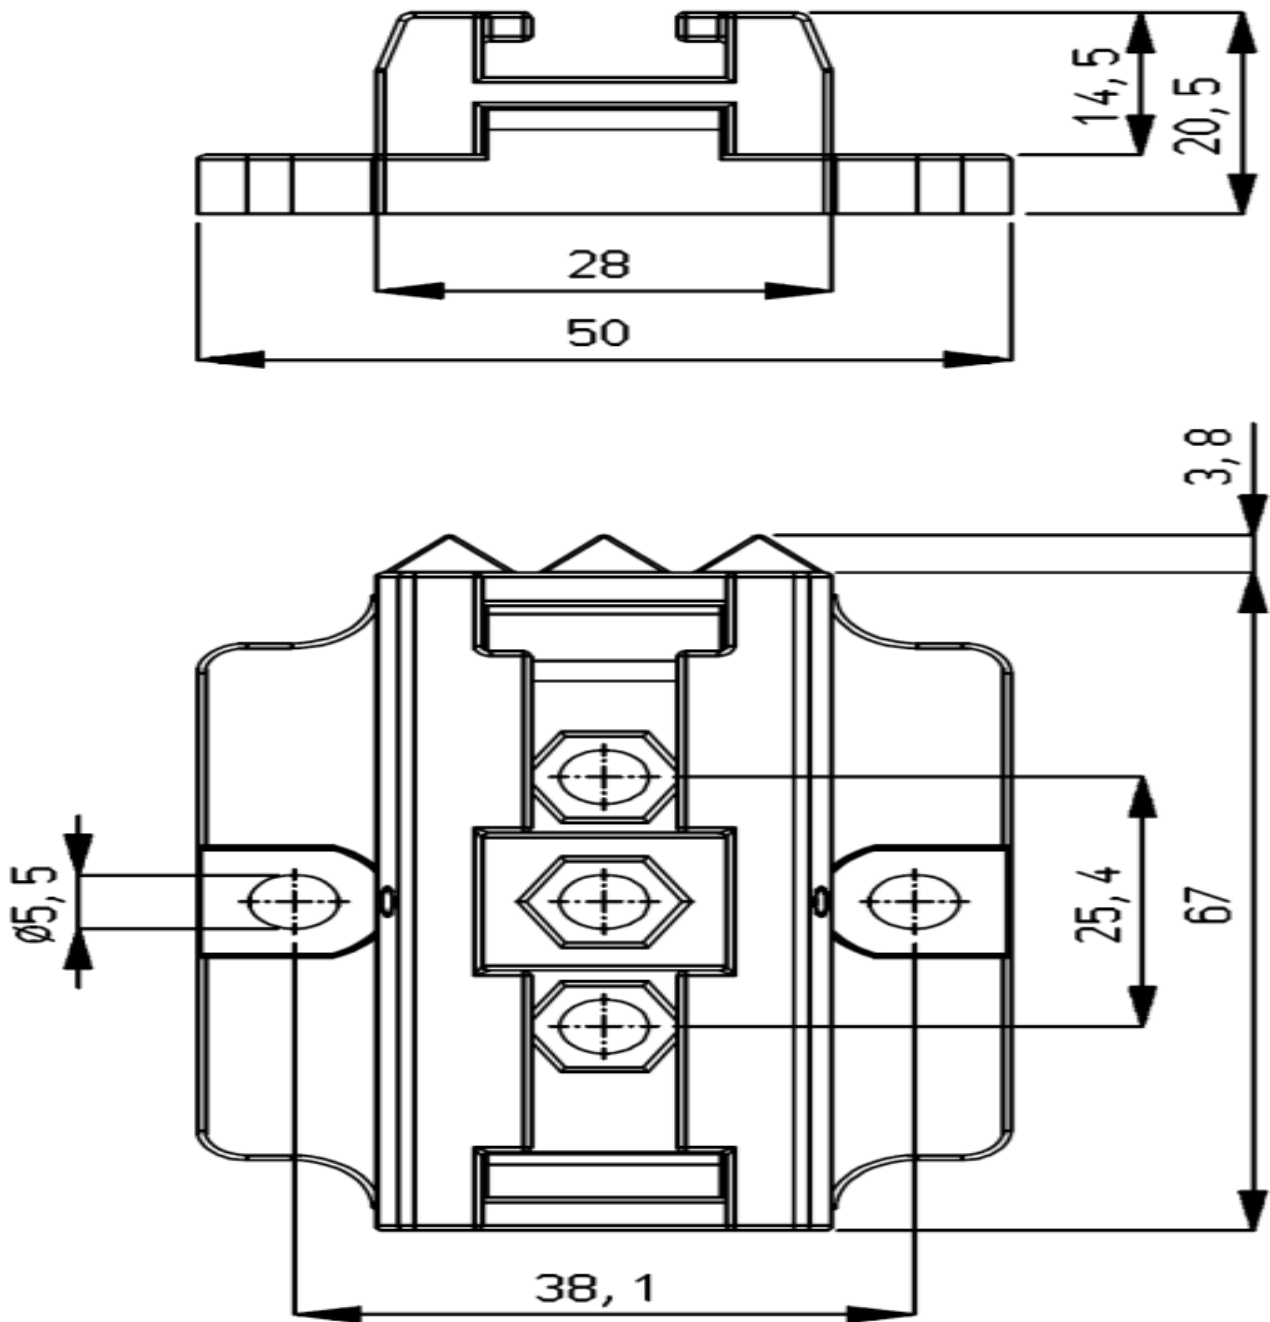

Figure 5: Fixing anti-static bar with mounting brackets
- Lock the anti-static bar in the mounting feet by screwing the two adjusting screws (7) into the brackets. With more than two brackets, only the two outer brackets need to be locked.
- Unscrew the adjustable screws (nr.6) from the brackets. (see figure 5).